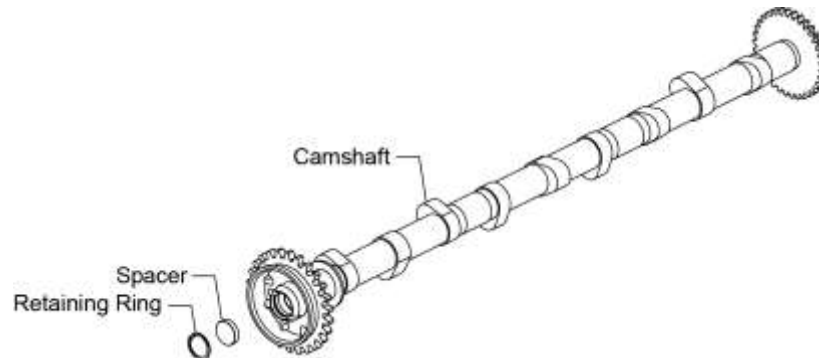

Figure 73
- (1) Install a new spacer and retaining ring (Figure 73) on the camshaft assembly.